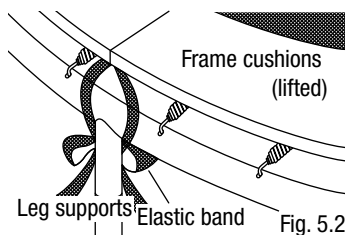

Fig. 5.2
- b) Tie the reinforcement straps around the leg supports. (Fig. 5.2)